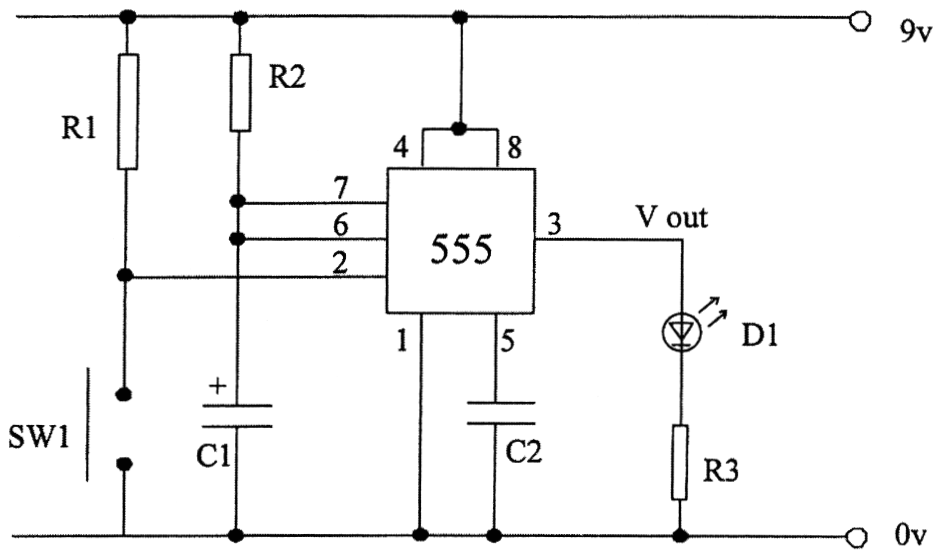

Figure 1
The monostable circuit in **Figure 1** is used to control the timing circuit used to feed the fish. Use the information given to help you to complete the table in **Figure 2** which describes the pins used for the connection of the 555 timer Integrated Circuit (IC).